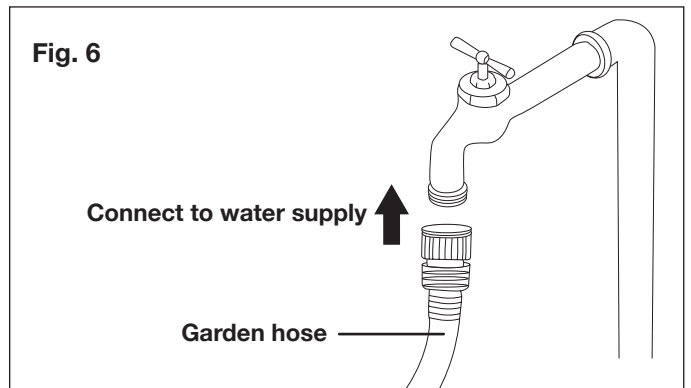

Fig. 6
5. Attach garden hose to water supply (Fig. 6).